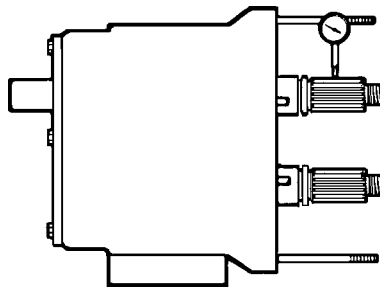

Figure 29 - Check bearings
- Check the bearings with a dial indicator for shaft radial play (Figure 29). If the deflection is equal to or greater than the rotor-to-body diametrical clearance ("Checking for Proper Clearance" on page 47), replace the bearings.